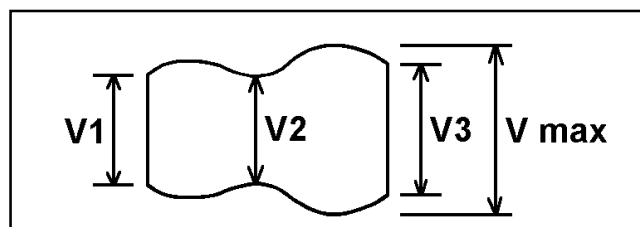

Figure 3-39-1 Envelope Waveform
2. Playback the just recorded portion, and confirm the envelope output is within the specification. (refer to Figure 3-39-1)